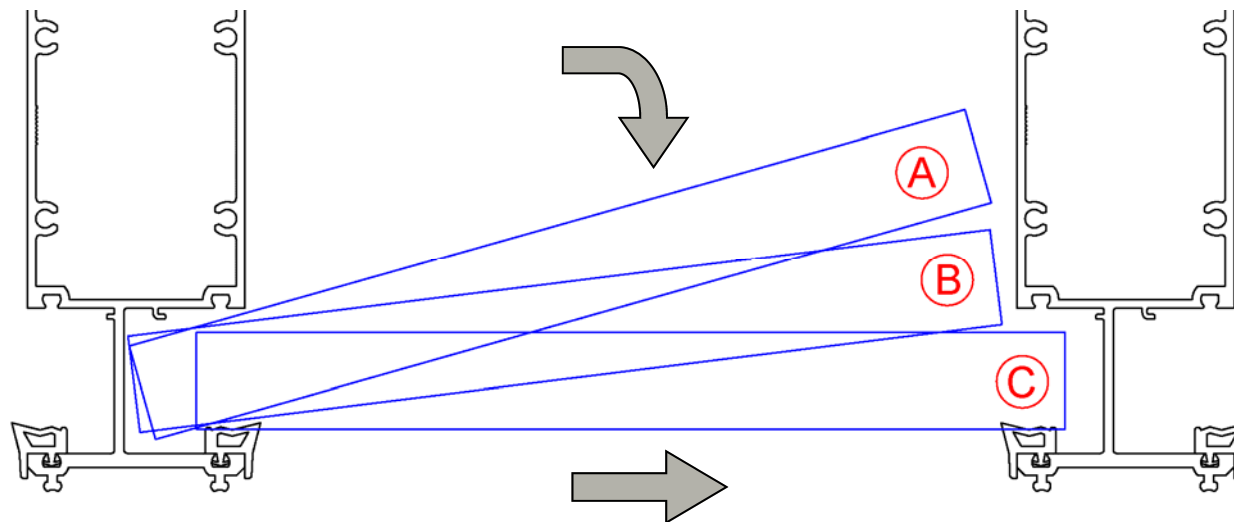

Figure 33
- Using suction cups, gently insert a glass edge (or other glazing infill) into the deep pocket of the vertical mullion. (Figure 33 Position A)
- Swing the opposite edge of the glazing in plane with the shallow pocket of the adjacent vertical mullion, and lower the glazing onto the setting blocks. (Figure 33 Position B and C)
- Position the glazing in the center of the opening maintain a 1/2" glass bite around the entire perimeter. (Figure 33 Position C)
- Position the glazing in the opening maintaining a 1/2" glass bite at captured frame members and 7/8" glass bite at structural glazed vertical members. (figure 33, position C)